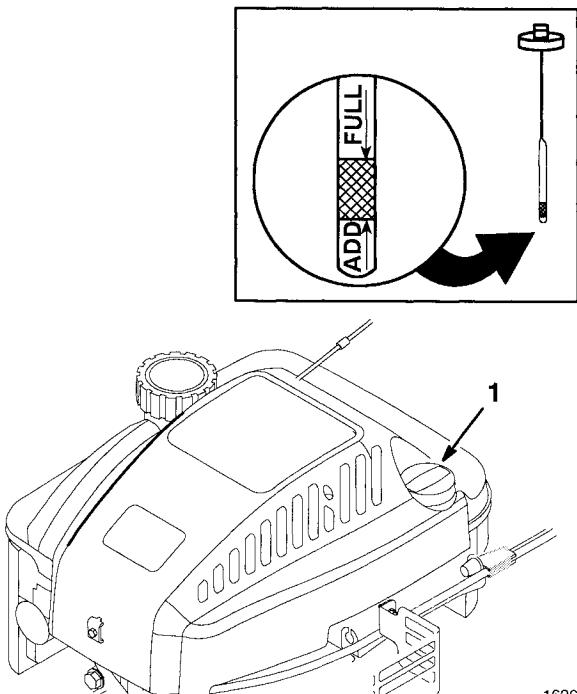

Figure 6
Before each use, ensure oil level is between FULL and ADD marks on dipstick (Fig. 6). Add oil if level is low.
1. Position mower on level surface and clean around oil dipstick (Fig. 6).
with FULL and ADD marks (Fig. 6). If level is low, add only enough oil to raise level to FULL mark on dipstick. **DO NOT FILL ABOVE FULL MARK BECAUSE ENGINE COULD BE DAMAGED WHEN STARTED. POUR OIL SLOWLY.**